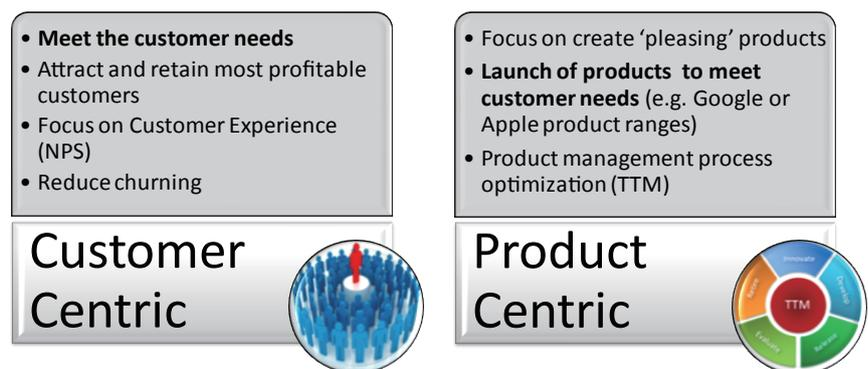

Figure 2 - Focus on the product
First step for executives is to extend the focus from being customer centric to product centric, understanding that business transformation is not only how to improve customer experience, but also how customer needs are satisfied in short time, launching attractive product and services. Business transformation has the target not only to improve Customer Experience (CE) but also must make the enterprise more agile to reduce the go-to-market and then the TTM. Telco industry needs to take Product-Centric into account when moving to be Customer-Centric (see Figure 2).